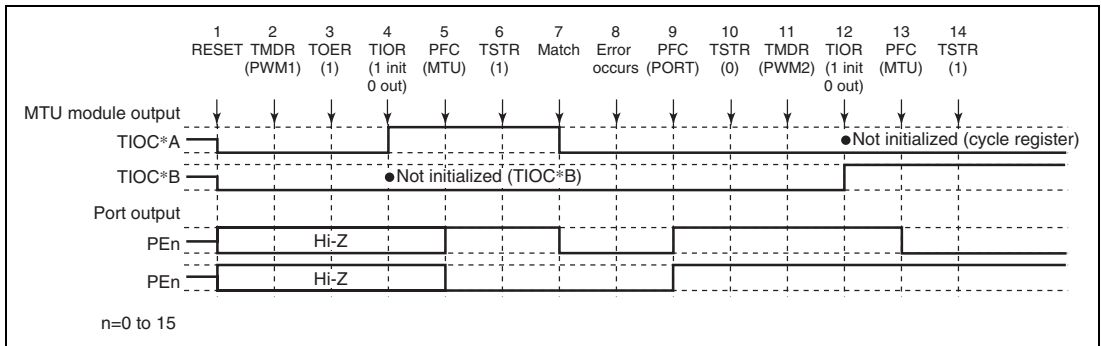

**Figure 11.93 Error Occurrence in PWM Mode 1, Recovery in PWM Mode 2**
**Operation when Error Occurs during PWM Mode 1 Operation, and Operation is Restarted in PWM Mode 2:** Figure 11.93 shows an explanatory diagram of the case where an error occurs in PWM mode 1 and operation is restarted in PWM mode 2 after re-setting.